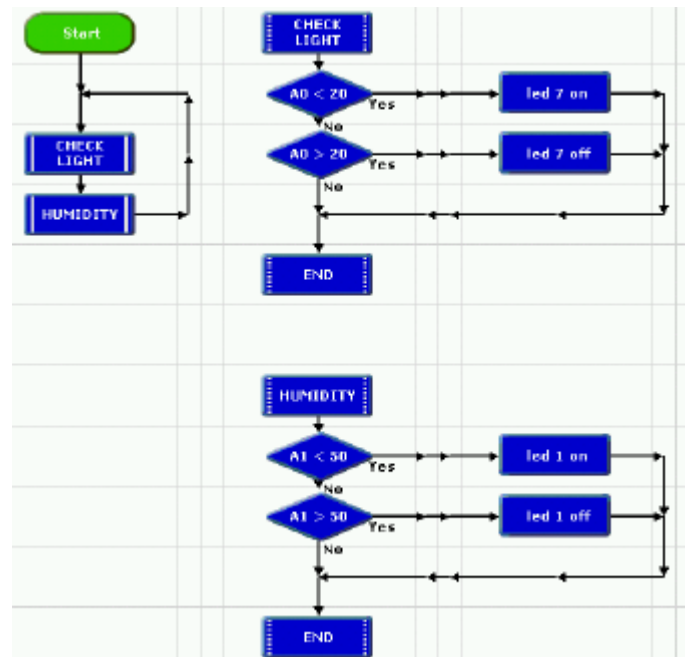

Fig 18. Light level and humidity monitoring system.
- Add another procedure to the program, as shown in Fig 18, to check the humidity level.
You will need to use this setting in the Outputs commands in the Fig 18 program, to prevent them from switching off an LED that you may want to keep switched on.